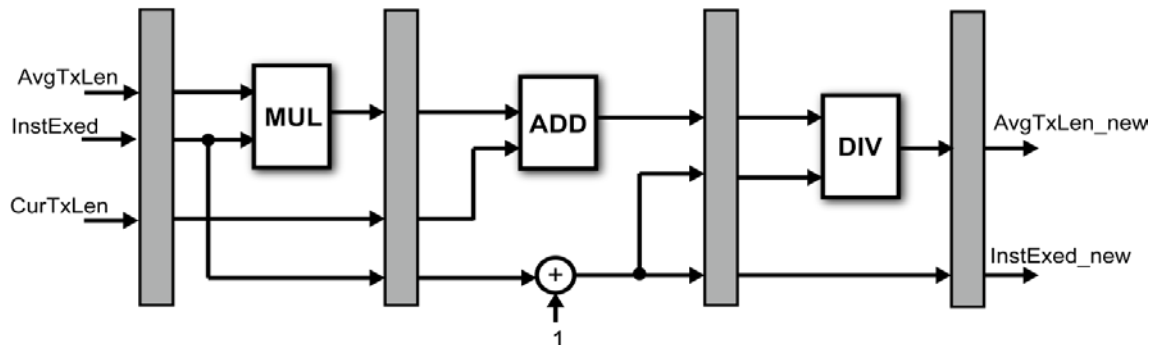

Figure 2: Pipelined ALU reference design.
The architectural design team asks you to implement and characterize a gate-level ALU design to perform the computation specified by the given formula. As the architecture 1 design team wants the design to achieve high throughput, the ALU needs to be pipelined. They also provide you with a pipeline design for your reference (see Figure 2).
4. Please use the referenced pipeline design in Figure 2.